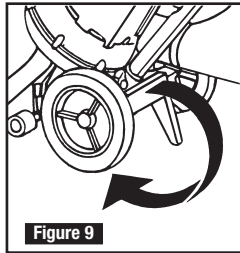

Figure 9
4. Disengage stand. To disengage, keep hands and feet away from stand and tilt unit forward until stand disengages (Figure 9).